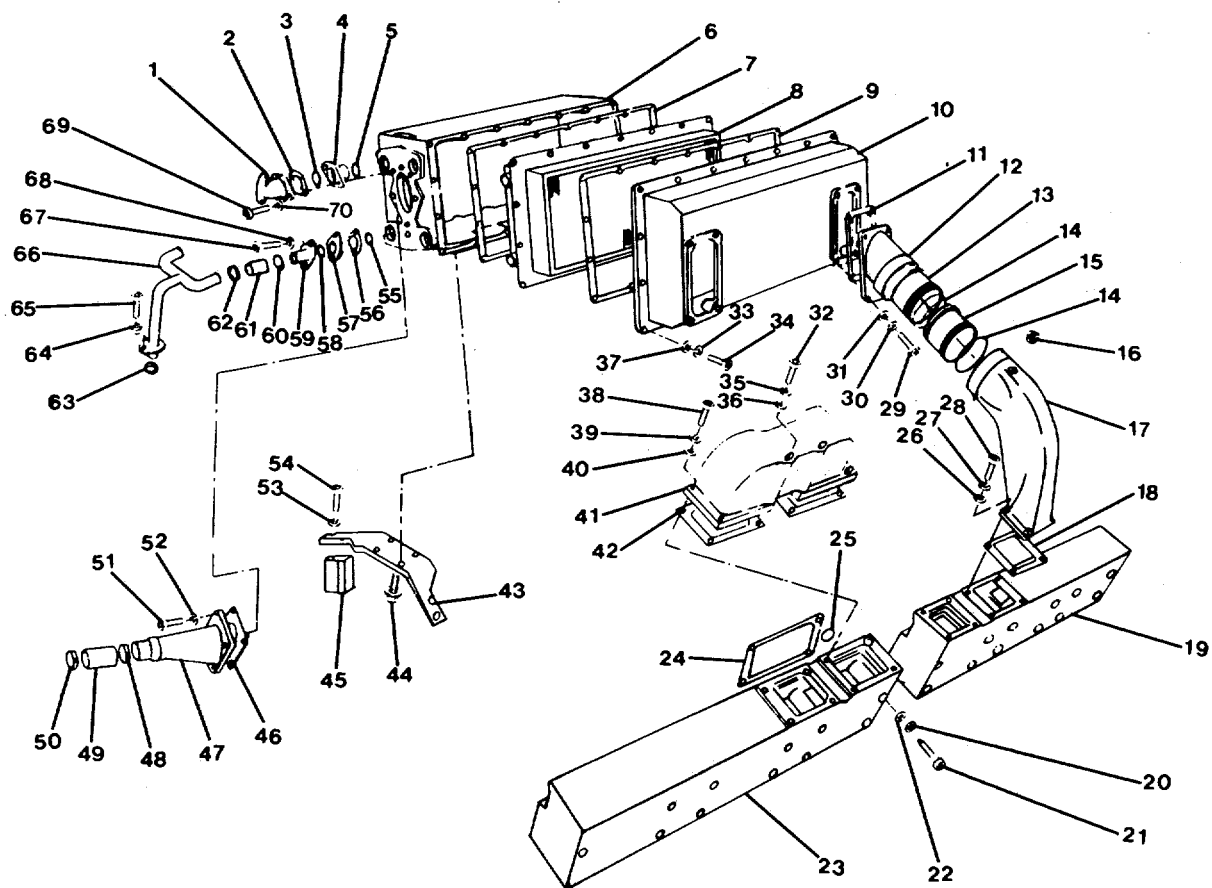

FIGURE 2-52. Air Intake Manifold Group.
- (1) Remove four machine bolts (28, FIG. 2-52), lockwashers (27), and flat washers (26) from each of four air crossover connections (17).
- (2) Remove air crossover connection (17), pipe plug (16) and gasket (18) from intake air manifold (19). Discard gasket.
- (3) Remove metallic tube (15) from plain seal (13) and air crossover connection (17). Remove and discard two preformed packings (14).
- (10) Remove 12 hexagon head capscrews (21, FIG. 2-52), lockwashers (20), and flat washers (22).
- (11) Remove intake air manifold (19 or 23), rubber bushing (25), and intake manifold gasket (24). Discard bushing and gasket.
- (1) Remove air cleaner group (paragraph 2-18).
- (2) Remove four machine bolts (29, FIG. 2-52), lockwashers (30), and flat washers (31).
- (3) Remove air crossover connection (12) and preformed packing (11). Discard preformed packing.
- (4) Loosen retaining clips (48 and 50) on nonmetallic hose (49) connecting aftercooler to turbocharger. Remove hose.
- (5) Remove two hexagon head capscrews (65), lockwashers (64), four machine bolts (67), and lockwashers (68) from the water transfer housing (66).
- (6) Remove water transfer housing (66) and preformed packing (63). Discard preformed packing.
- (7) Loosen hose clamps (60 and 62). Remove nonmetallic hose (61), water transfer connection (59), preformed packing (58), adapter connector (57), and preformed packing (56 and 55). Discard preformed packings.
- (8) Remove hexagon head capscrews (51) and flat washers (52). Remove air crossover connection (47) and gasket (46). Discard gasket.
- (9) Remove four hexagon head capscrews (69) and lockwashers (70).
- (10) Remove water outlet connection (1), preformed packings (2 and 3), adapter connection (4), and preformed packing (5). Discard preformed packings.
- (11) Remove 18 hexagon head capscrews (34), lockwashers (33), and flat washers (37) from each aftercooler housing cover (10). Remove aftercooler housing cover (10) and aftercooler gasket (9). Discard gasket.
- (12) Remove radiator core (8) and aftercooler gasket (7). Discard gasket.
- (1) Position mounting spacers (45, FIG. 2-52) and aftercooler brackets (43). Install eight lockwashers (53) and hexagon head capscrews (54). Tighten to 70 ft-lb (95 N•m).
- (2) Position aftercooler housing (6) on aftercooler brackets (43). Install eight assembled washer screws (44). Tighten to 45 ft-lb (60 N•m).
- (3) Install aftercooler gasket (7), radiator core (8), aftercooler gasket (9) and aftercooler housing cover (10).
- (4) Install 18 flat washers (37), lockwashers (33), and hexagon head capscrews (34) in each aftercooler housing cover (10). Tighten capscrews to 20 ft-lb (25 N•m).
- (1) Position intake manifold gasket (24, FIG. 2-52), rubber bushing (25), and intake air manifold (19 or 23).
- (2) Install twelve flat washers (22), lockwashers (20), and hexagon head capscrews (21). Hand tighten capscrews.
- (7) Position two preformed packings (14, FIG. 2-52) and plain seal (13) on metallic tube (15). Lubricate seal with clean engine lube oil. Install tube (15) on air crossover connection (12).
- (8) Install air crossover connection (17) non-metallic tube (15). Push connection on tube as far as possible. Install pipe plug (16).